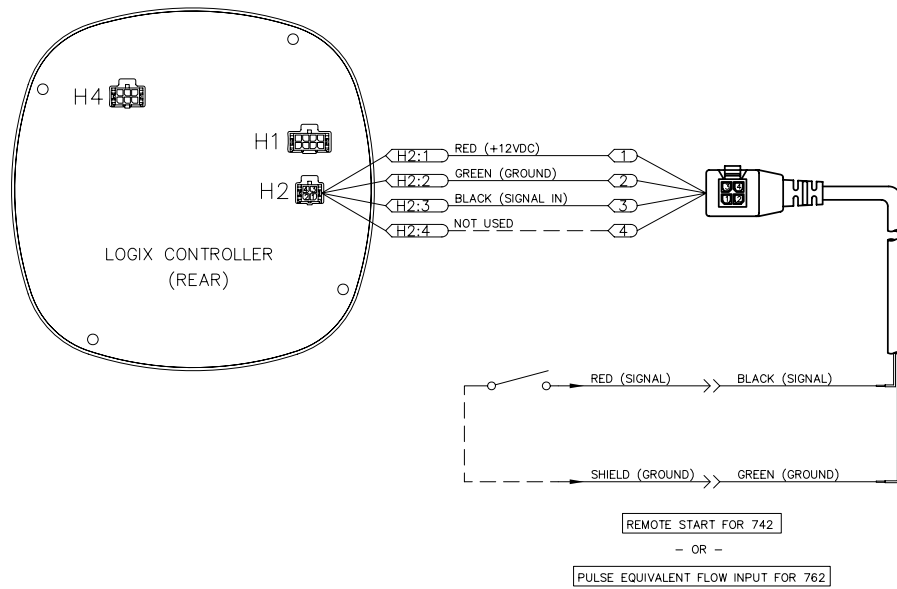

Figure 16 Remote Start / Pulse Equivalent Flow Input
**NOTE:** The 762 may also be used with two-wire "Contacting Head" meters (Pulse Equivalent, P19 set to a 4) by connecting the meter leads as shown in Figure 16.